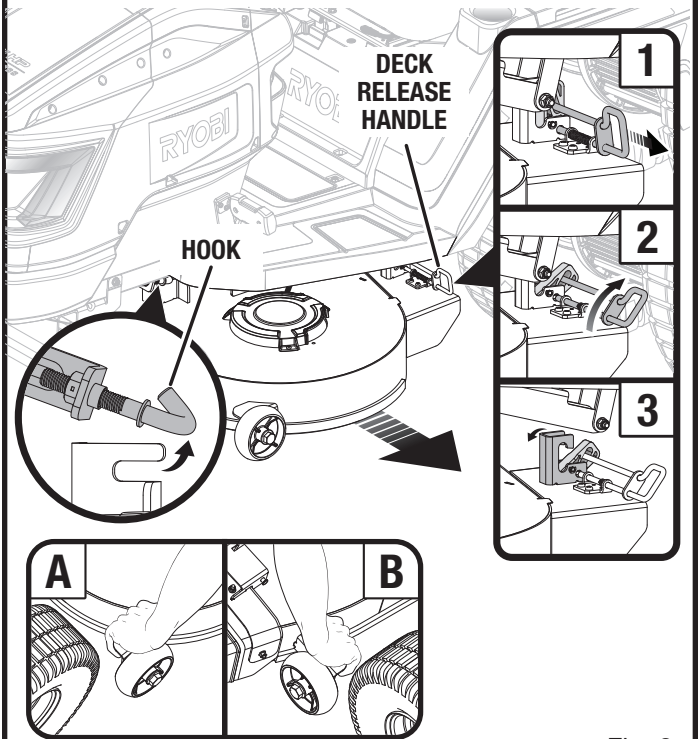

Fig. 2
See Figures 2 - 3.
- NOTE:** To release tension on the quick release handle, it may be necessary to pull up on the front of the deck while pulling the handle back. You may also place a 3 in. high block of wood under the middle of the front edge of the deck to release the tension. See Figure 2, A and B for hand placement.